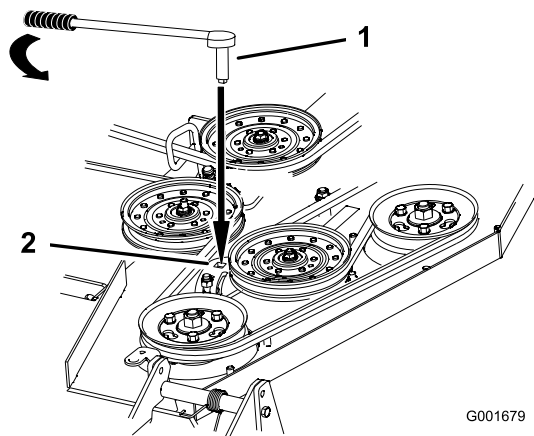

Figure 46
7. Insert a ratchet with a short extension or a breaker bar into the square hole in the fixed idler arm (Figure 46).